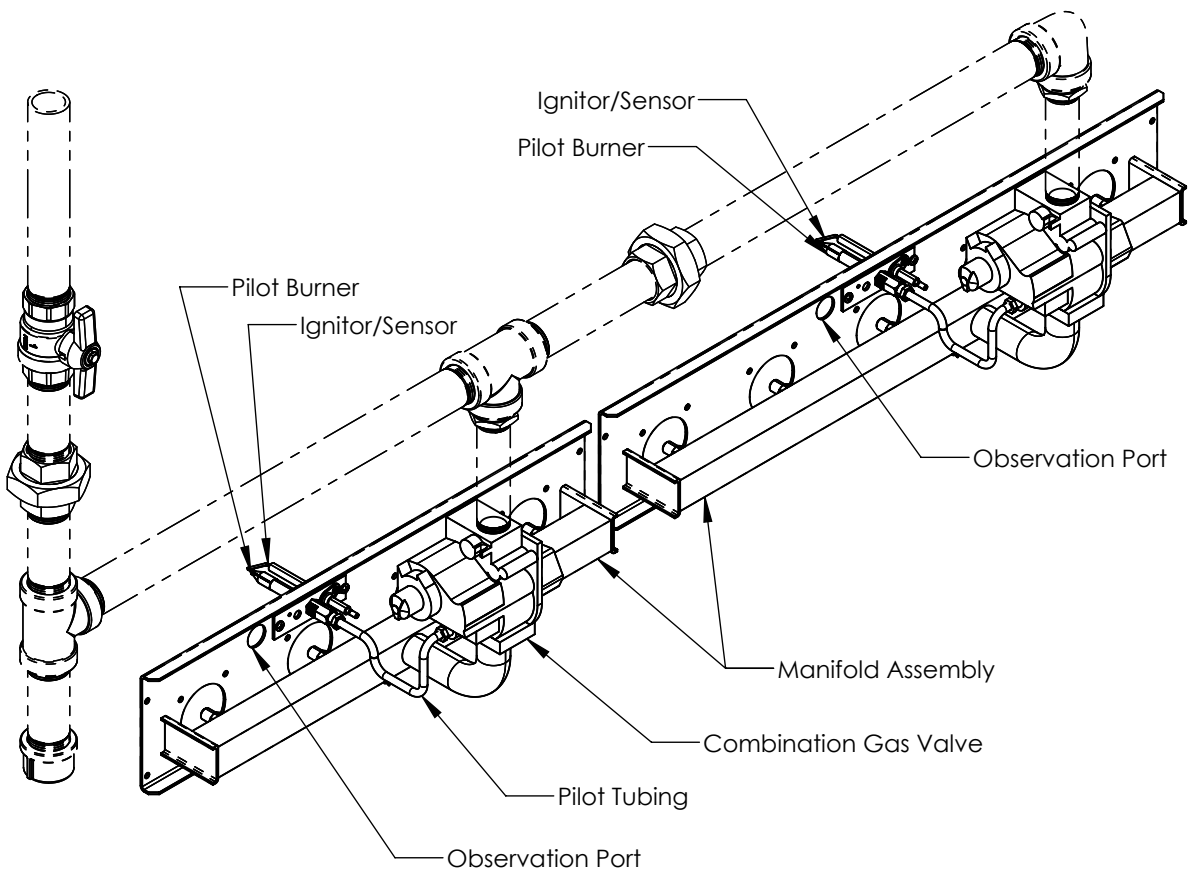

**Figure 8-2: Gas Piping**
- D. Install sediment trap, ground-joint union and manual shut-off valve upstream of combination gas valve (within 6 ft. of boiler). See Figure 8-2